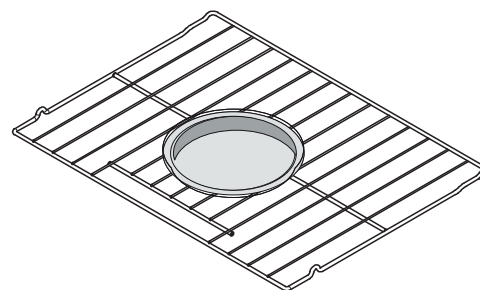
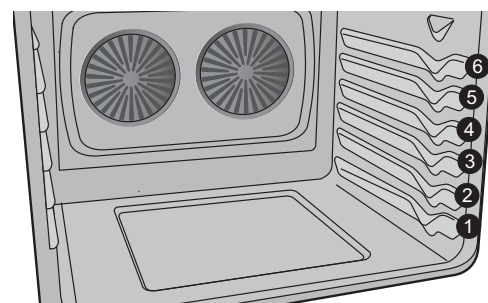

Figure 12: Single rack baking for convenience foods-- place food towards front of oven rack.
Figure 13: Oven rack position (3) best for cooking convenience foods
- Always place food in center of the oven on rack position 3 (Figure 13). Place the food as shown in Figure 12.